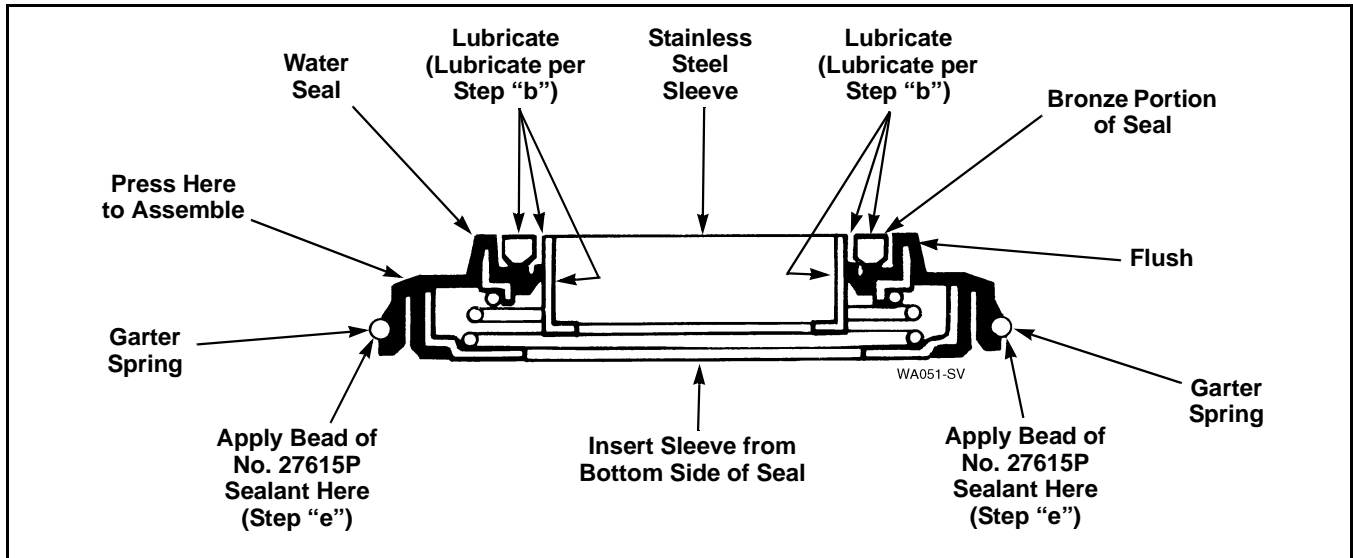

Figure 39
- Apply a light film of nonstaining petroleum jelly (such as Vaseline®) to bronze portion of water seal and to outer surface of stainless steel sleeve. Refer to Figure 39.
- Insert stainless steel sleeve into water seal from bottom side of the seal until the sleeve is flush with bronze portion of the seal. Refer to Figure 39.
- Carefully apply a small amount of No. 27615P Sealant (supplied with kit) around outer edge of seal and tub. (The area located just below the garter spring). Refer to Figure 39.